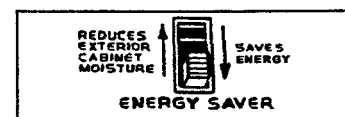

Figure 5
c. As weather conditions change, this setting may need to be adjusted. At any time moisture forms on refrigerator cabinet, move control to the "Reduces exterior cabinet moisture" position. See Figure 5.